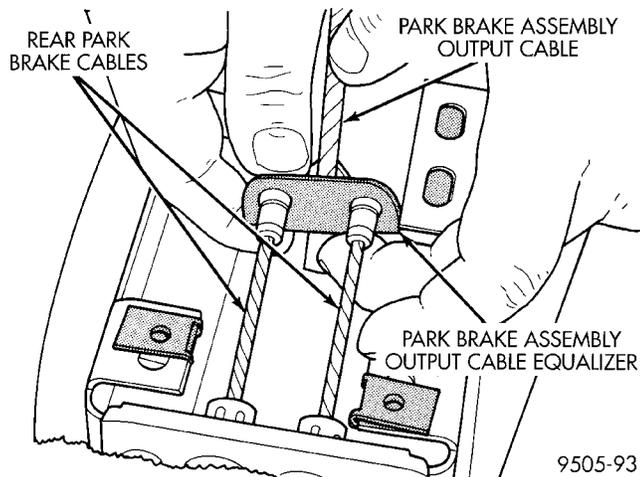
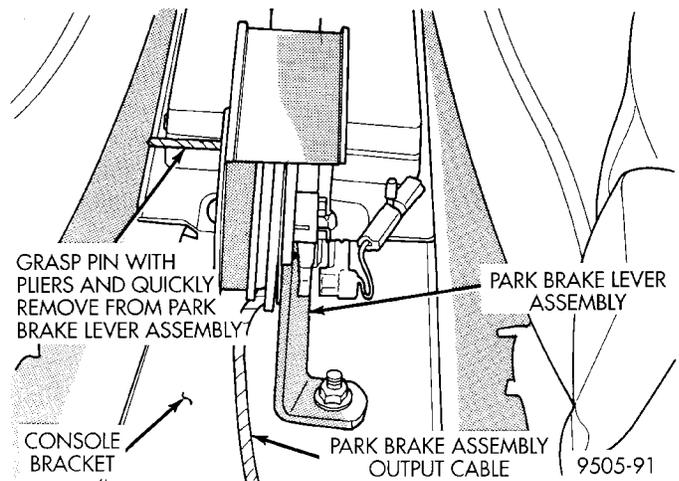

Fig. 138 Park Brake Cables Attachment To Equalizer
Fig. 157 Removing Lockout Pin From Park Brake Lever
(7) Remove rear park brake cables from the park brake cable equalizer (Fig. 138).
(14) Install rear park brake cables into equalizer (Fig. 138) on park brake lever cable.
(15) Reposition rear carpeting.
(16) Install both rear door sill plate scuff moldings, by snapping them onto rear door sills.
(17) Install lower rear seat cushion. Be sure lower seat cushion is fully installed in retainers on floor pan of vehicle.
(18) Firmly grasp park brake lever locking pin (3/16 in. drill bit) (Fig. 157) and quickly remove it from the park brake lever mechanism. This will allow the park brake lever mechanism to correctly adjust the park brake cables.
(19) Cycle park brake lever ounce to position park brake cables. Then return the park brake lever its released position. Check the rear wheels of the vehicle, they should rotate freely without dragging.
(20) Apply park brake to full engagement.